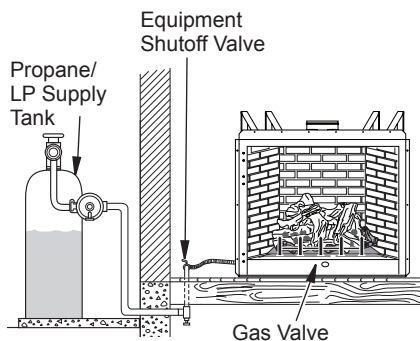
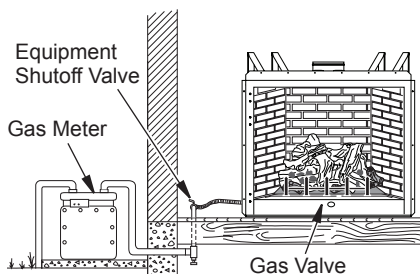

Figure 25 - Checking Gas Joints for Propane/LP Gas Fireplace
Figure 26 - Checking Gas Joints for Natural Gas Fireplace
3. Check all joints from propane/LP supply tank or gas meter to equipment shutoff valve (see Figure 25 or Figure 26). Apply noncorrosive leak detection fluid to all joints. Bubbles forming show a leak.
4. Check all joints from equipment shutoff valve to gas valve (see Figure 25 or Figure 26, page 19). Apply noncorrosive leak detection fluid to all joints. Bubbles forming show a leak. Correct all leaks at once.